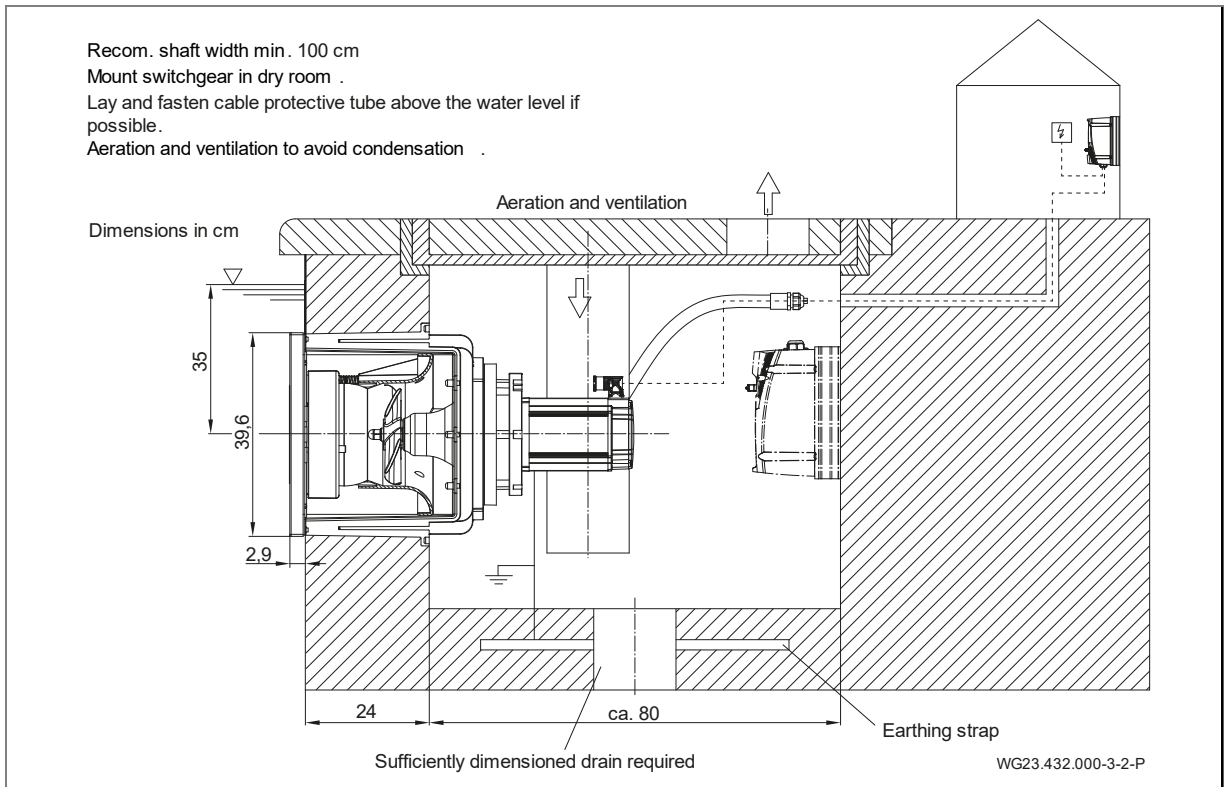

Fig. 17
1. Remove grease from the connection nozzle (d, (Fig. 17)) on the plastic housing (1) and the connection socket of the cable protection tube (12) with PVC-U/ABS cleaner.
The system must be installed in a shaft which borders the edge of the pool. The installation space must have perfect ventilation and sufficient ground drainage. There must be a fastening possibility for the cable protection hose (above the water level if possible). There must be a potential equalisation connection in the shaft. See "Fig. 17" on page 22.